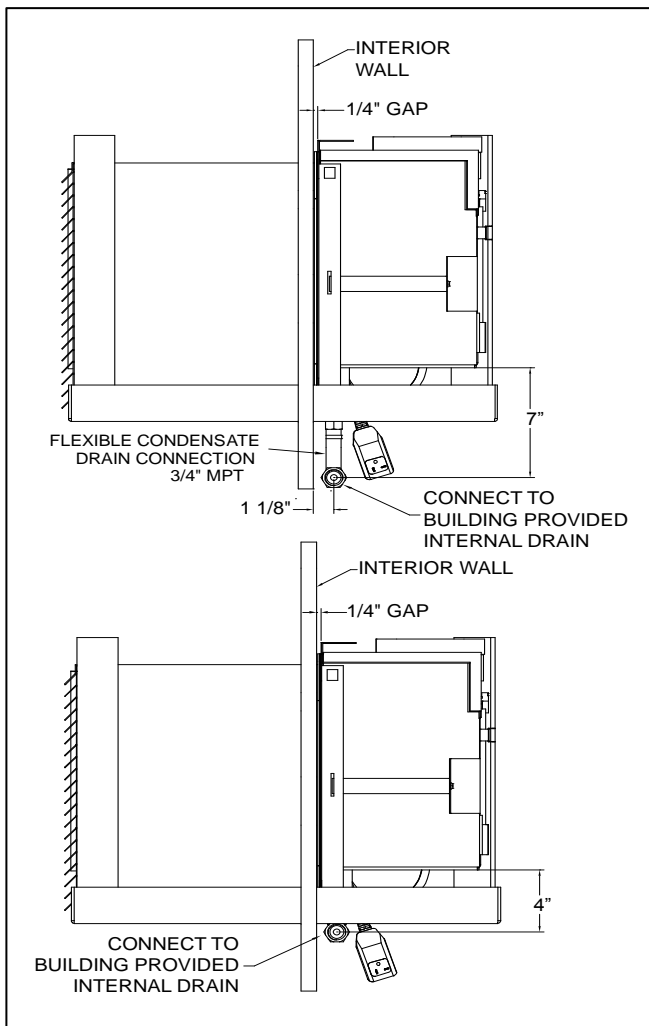

Figure 13. Drain Connection
2. Connect flexible condensate drain connection (3/4" MPT) to building drain system (see Figure 13).